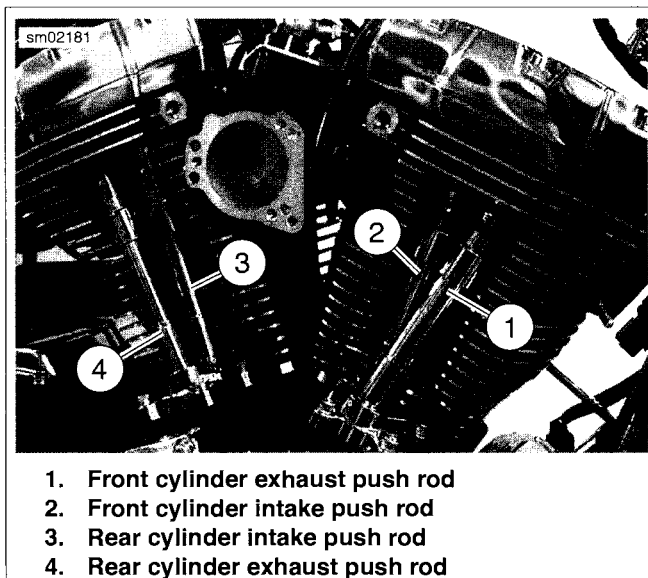

Figure 3-45. Push Rod Locations
- a. See Figure 3-45. For example, if reassembling the rear cylinder, slide the intake push rod (silver) through the front hole in the rocker housing engaging the lifter socket in the inside hole of the lifter cover.